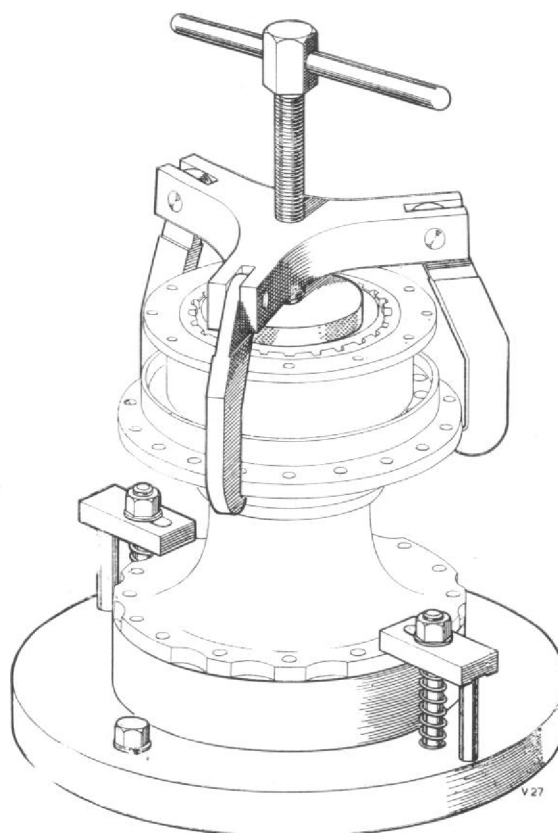

Fig. 9. Bench fixture T.72411, adapter T.73069 and extractor T.73068, for removing rear bearing housing assembly from extension shaft.
3. Place the rounded end of the screw of extractor T.73068 in the depression provided in adapter T.73069, and engage the three claws under the flange of the rear bearing housing, Fig. 9; draw off the rear bearing assembly.